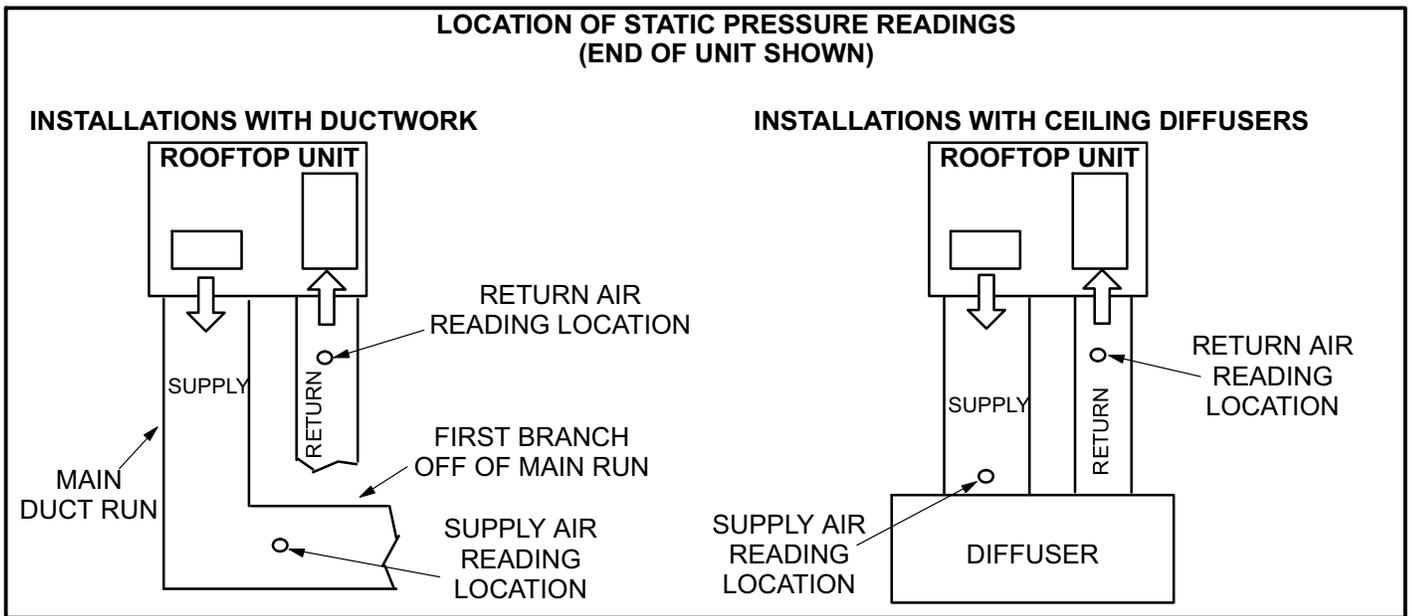

FIGURE 5
- 2- With all access panels in place, measure static pressure external to unit (from supply to return). Blower performance data is based on static pressure readings taken in locations shown in figure 5.